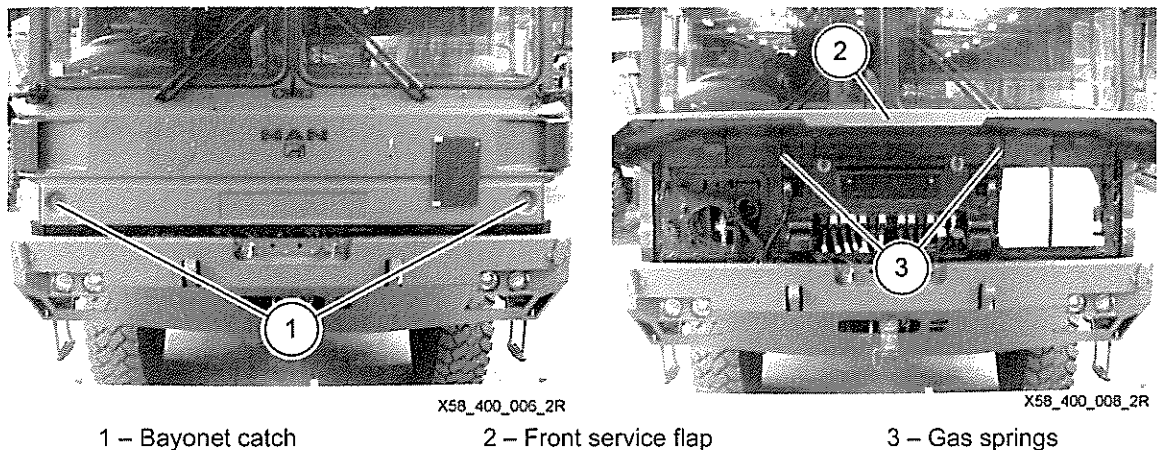

Fig 1 Opening the front service flap
- 4 Refer to Fig 1. To open the front service flap, proceed as follows:
- 4.1 Tip up the bayonet catch (1), and then turn the catch counterclockwise to the horizontal position.
- 5 Refer to Fig 1. To close the front service flap, proceed as follows:
- 5.1 Pull the front service flap (2) downwards.